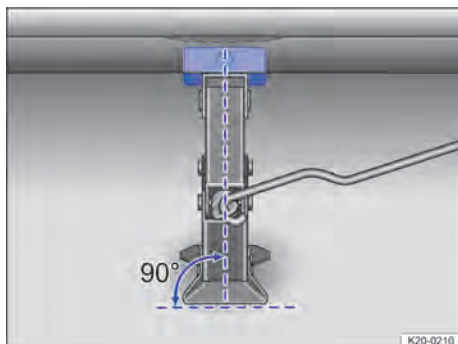
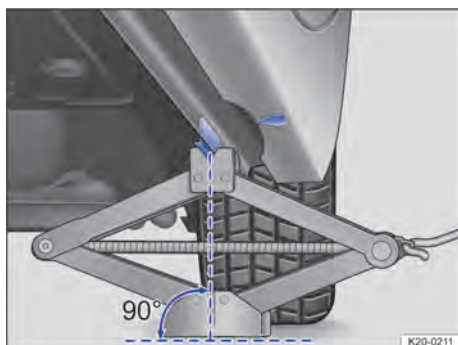

Fig. 214 Correct alignment of the jack.
Fig. 215 Correct alignment of the jack.
the ground and that it is positioned vertically directly beneath the jacking point → Fig. 214 and → Fig. 215.
5. Position the jack and simultaneously continue to crank the claw up until it is in position around the jacking point underneath the vehicle → Fig. 215.
- Fit the jack only at the described jacking points. The jack claw must grip the vertical rib under the door sill securely → Fig. 215.